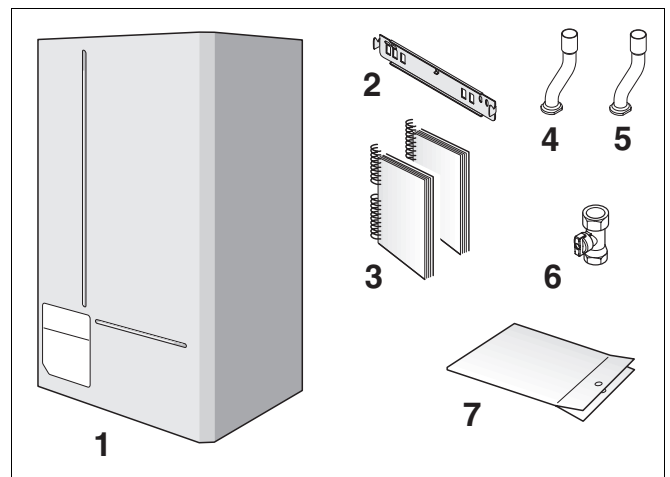

Fig. 1 Items supplied with unit
Key to fig. 1:
- Take out the wall bracket (fig. 1, item 2) and attach to the wall using the wall mounting template.